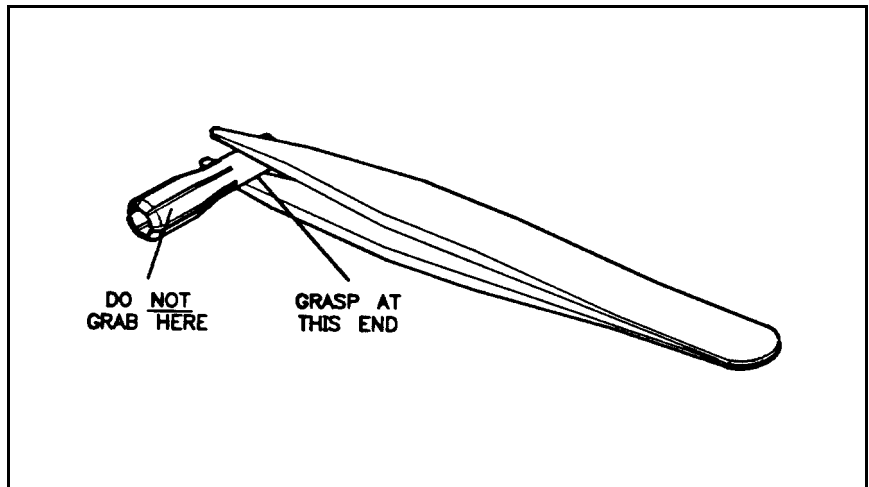

Figure 2-13. How to Properly Hold the Inner Contact
1. Using the tweezers provided in this kit, carefully pick up a new inner contact by its small-diameter end (away from the fingers, see Figure 2-13). Do not use excessive pressure. Holding the contact by the fingers will damage it.